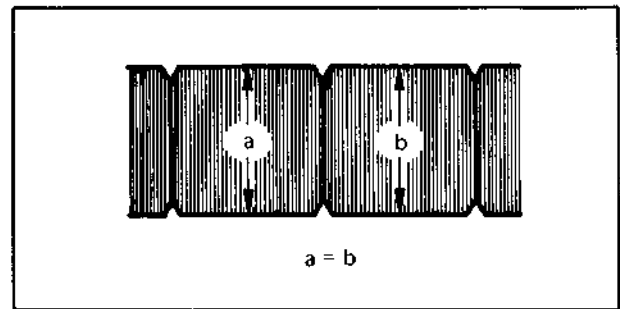

Fig. 5-14 FM channel balance
4. Adjust R48 (FM CH. BALANCE) so that the amplitude of (a) and (b) in Fig. 5-14 are equal to each other.